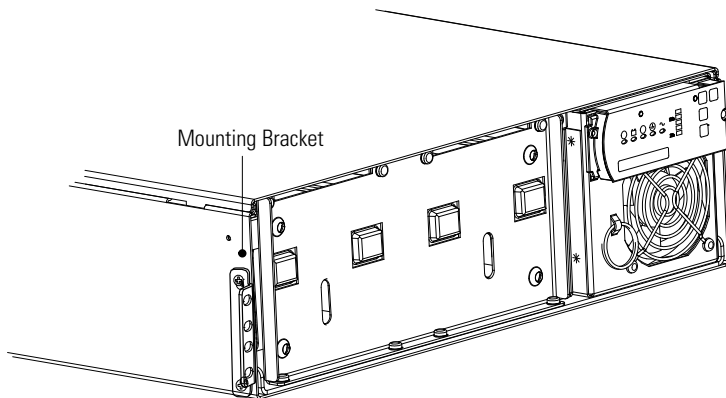

Figure 7. Installing the Mounting Brackets
8. Align the mounting brackets with the screw holes on the sides of the UPS and secure with the supplied #6-32 × 3/8" flat-head screws (see Figure 7).